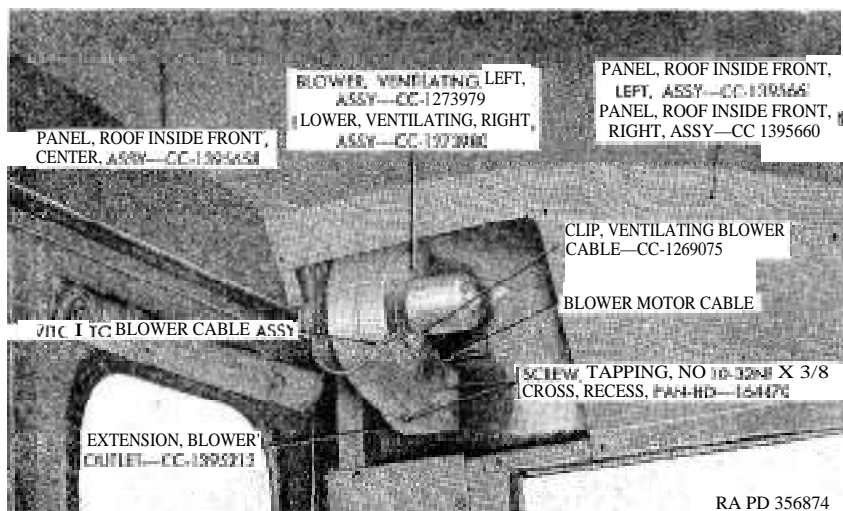
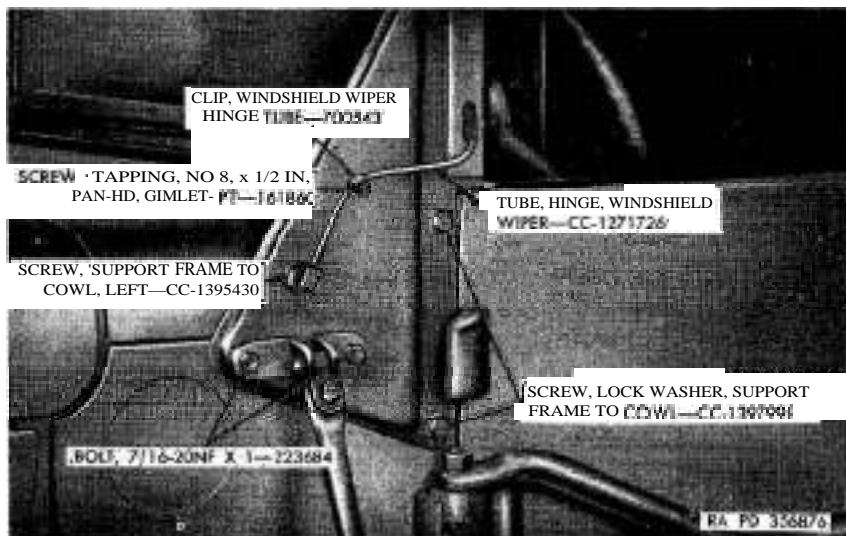

Figure 201. Ventilating blower assembly installed.
Figure 203. Windshields and support frame assembly to cowl parts.
- (1) Remove roof inside front center panel screws and lock washers, including the spot light extension cable clip and screw. Remove roof inside front center panel assembly (*fig. 201*).
- (2) Remove lock washer screws, which attach the right and left ventilating blower inspection covers to body panels. Remove covers.
- (3) Remove lock washer screws, which attach the roof inside front left panel assembly to body (*fig. 201*). Remove panel assembly.
- (4) Remove screws and spot light extension cable clip from roof inside front right panel assembly. Disconnect spot light extension cable by separating the two connector shells. Remove grommet, bushing, and shell from cable, which extends through right panel.
- (5) Remove lock washer screws, which attach the roof inside front right panel assembly to body. Remove panel assembly and withdraw spot light extension cable from panel assembly.
e. Remove Windshields and Support Frame Assembly (*fig. 203*).
- (1) Remove four screws, which attach each air control blower valve (R) to body partition ; then remove valves.
- (2) Remove four fillister head machine screws (T). This will release each blower outlet louver (U), blower outlet screen (V), and blower outlet gasket (W) from body panel. Remove louvers, screens, and gaskets.
c. Remove Blower Outlet Extensions (fig. 201). Loosen two
d. Remove Right and Left Ventilating Blower Assemblies (fig. 201).
- (1) Remove blower motor cable from ventilating blower cable clip. Disengage switch-to-blower cable assembly from blower motor cable by separating the connector shells.
- (2) Remove nuts and lock washers from studs in blower housing assemblies (litter compartment side).
- (3) Remove right and left ventilating blower assemblies, blower housing gaskets, blower housing spacers, and plain washers (if truck is so equipped) from body.